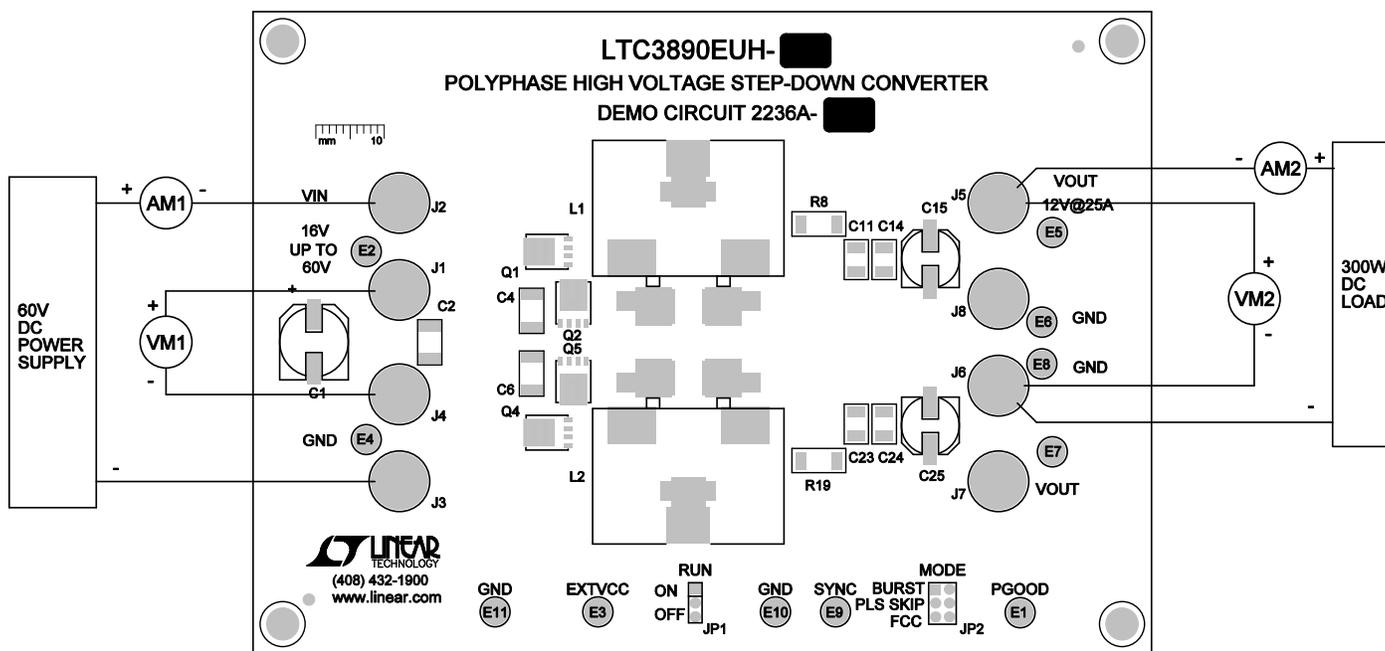

Figure 1. Proper Measurement Equipment Setup
Demonstration circuit 2236A-A is easy to set up to evaluate the performance of the LTC3890-2. For proper measurement equipment configuration, set up the circuit according to the diagram in Figure 1. Before proceeding to test, insert shunt into JP1 (RUN) OFF position, which connects the RUN pin to ground (GND), and thus, shuts down the circuit.
1. With the DC2236A-A set up according to the proper measurement and equipment in Figure 1, apply 20V at  $V_{IN}$ . Measure  $V_{OUT}$ ; it should read 0V. If desired, one can measure the shutdown supply current at this point. The supply current will be approximately  $50\mu A$ , or less, in shutdown.